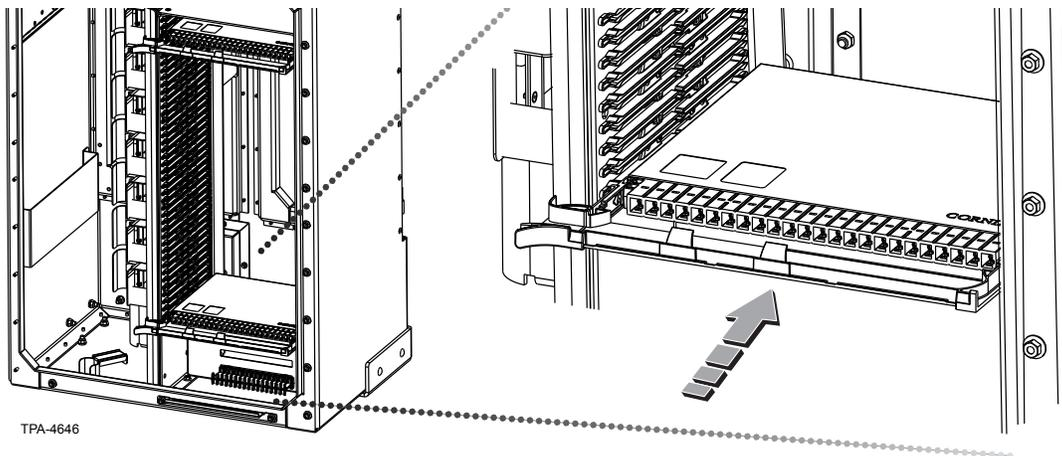

Figure 11
- Step 1:** Install up to 36 distribution cassettes from bottom to top in the distribution field (Figure 11).